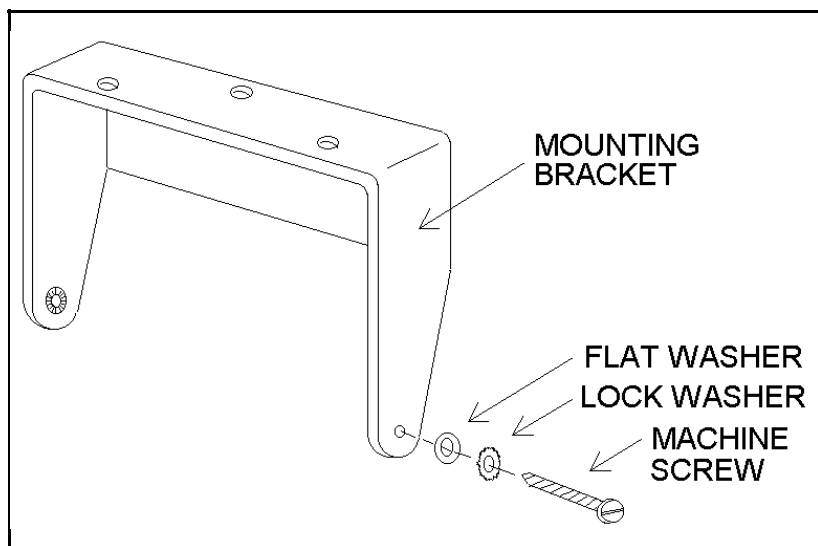

Figure 4 - Mounting The Speaker
1. Select a speaker location that directs the speaker toward the operator but does not cause interference with his vision. It also should not present a hazard in the event of an accident. The speaker may be mounted on the lower edge of the instrument panel, the fire wall, or above the windshield in some trucks. Use the mounting bracket as a template for locating the mounting holes, and mount the speaker as shown in Figure 4.